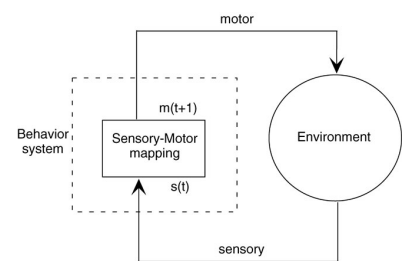

Figure 3: A schematic of a robot controlled by a sensory-motor loop.
We ended our last section on a somewhat cryptic note. If we seek to design simple robots, how on earth can they do complex things? The answer to this question lies in the fact that robots are not isolated machines, but instead interact with a complex and ever-changing world. A simple model that captures this idea is the sensory-motor loop (see Figure 3). The model situates the robot within an environment that it interacts with through two pathways.
**Exercise (2)** Design robots using the model in Figure 3. Restrict yourselves to robots that have no memory (i.e. ones that act at any moment in time directly based on their sensory input). To help get your creative juices flowing, it may help to make lists of sensors and actuators. You can then create interesting ideas by seeing what would happen if you paired a particular sensor with a particular actuator in a particular context. Don't worry too much about trying to design useful robots (whimsical is good), the goal here is to be creative and to think through the mental simulations necessary to understand how your robot would behave. Here are some suggestions for sensors and actuators.